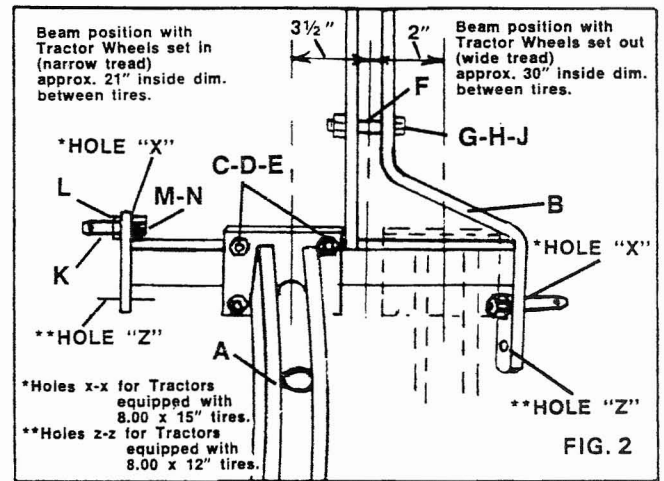

FIG. 2
FIG. 2. Assemble beam assembly (A) to mast (B), using (2) "U" bolts (C) (saddling square tube on mast), (2) $\frac{5}{8}$ " lock washers (D), and (2) $\frac{5}{8}$ " hex nuts (E). IF REAR TRACTOR WHEELS ARE SET IN NARROW TREAD POSITION, ASSEMBLE IN POSITION SHOWN. If wheels are set in wide tread position, assemble as sketched in. (See width of cut instructions in operation section of manual). Insert mast spacer (F) between mast upper arms (in bottom hole), secure with $\frac{5}{8}$ " x $2\frac{1}{2}$ " hex bolt (G), $\frac{5}{8}$ " lock washer (H), and $\frac{5}{8}$ " hex nut (J).